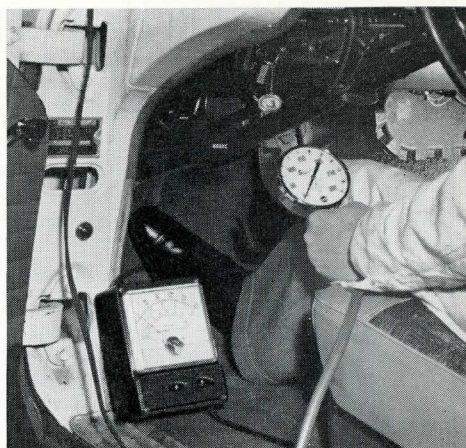

Figure 34
2. With the gauge installed, position it so it can be read from the driver's seat. A tachometer should then be installed on the engine so it too can be read from the driver's position. (Fig. 34) The car should be started and thoroughly warmed up before making any of the checks.